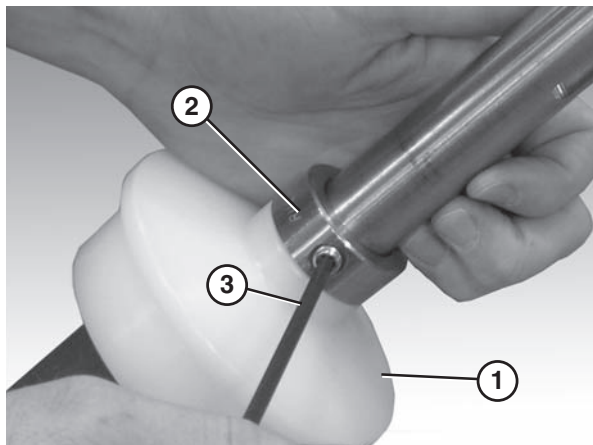

Figure 83
5. Slide the second flanged puck (**Figure 83, item 1**) and the retaining ring (**Figure 83, item 2**) onto the drive spindle.
6. Tighten the retainer ring fastener (**Figure 83, item 3**) using a hex wrench.